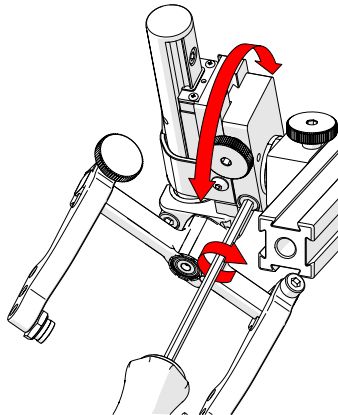

Fig. 140 - Rotate to position
3. Rotate the main body of the probe holder until it is at the desired angle (*Fig. 140*).
4. Tighten the longitudinal adjustment screw (*Fig. 140*).